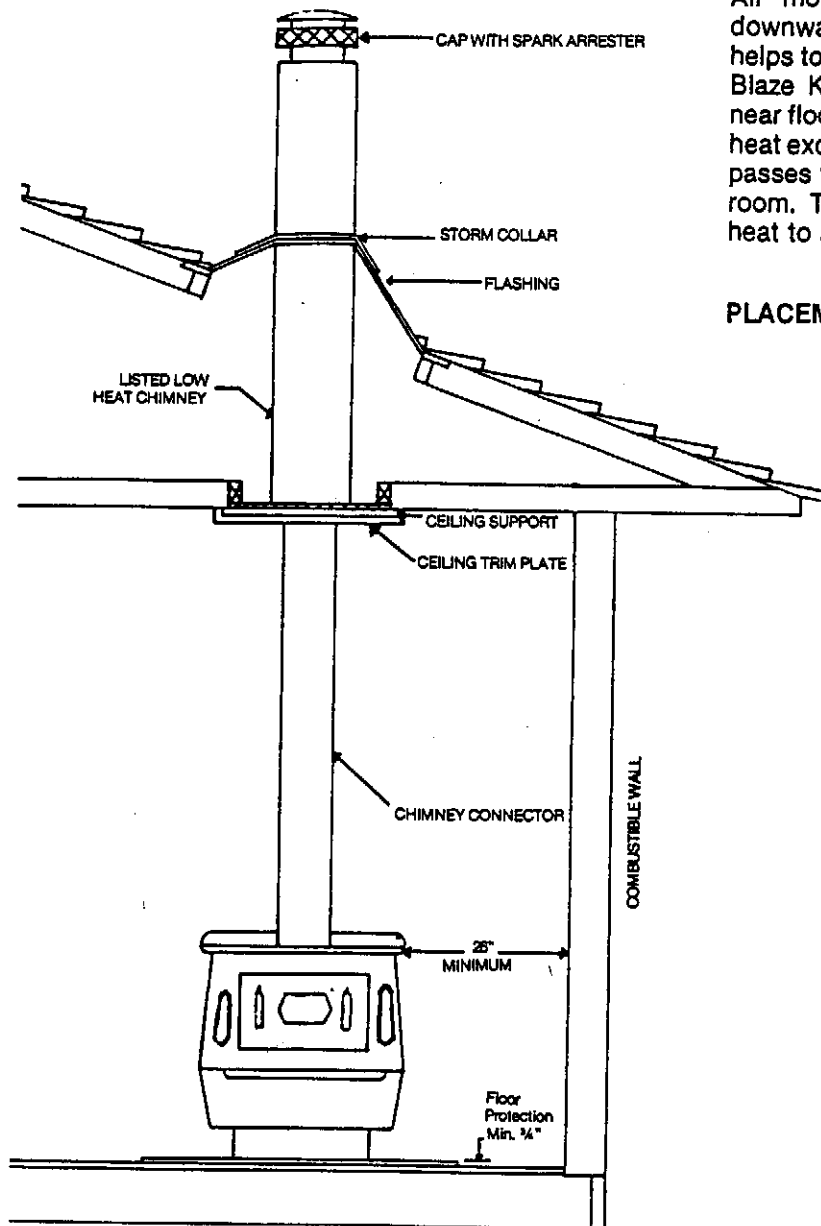

Figure 4
**PLACEMENT:** See Fig. 4 & 5.
1. Set hearth and stove in location for marking holes in accordance with the dimensions listed in Figures 4 and 5 of these instructions.